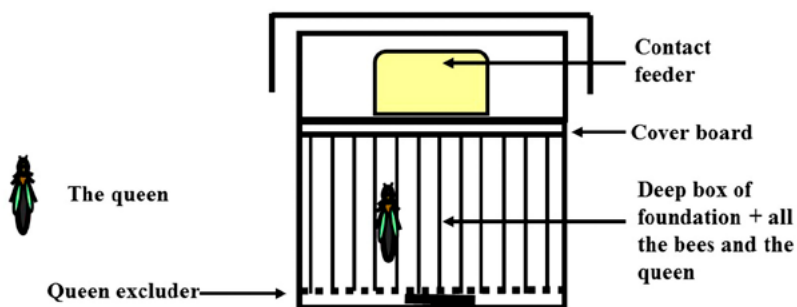

Figure 9: A shook swarm
2. Set aside the colony that is to be shook swarmed and place the new floor, queen excluder and the box of foundation on the stand in that order (see **Figure 9**). The queen excluder is temporarily placed on the floor to prevent absconding.